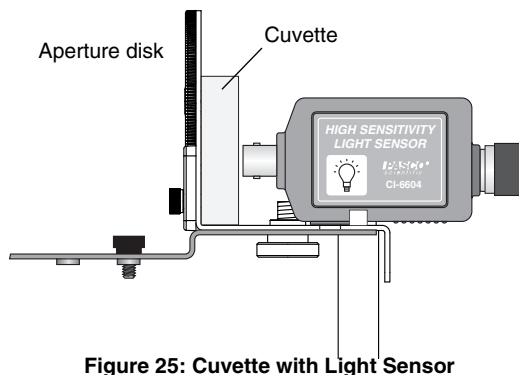

Figure 25: Cuvette with Light Sensor
3. Place the empty cuvette in front of the opening to the Light Sensor between the sensor and the backside of the Aperture Disk. Make sure that the cuvette is turned so that the smooth sides are in line with the Light Sensor (Fig. 25).